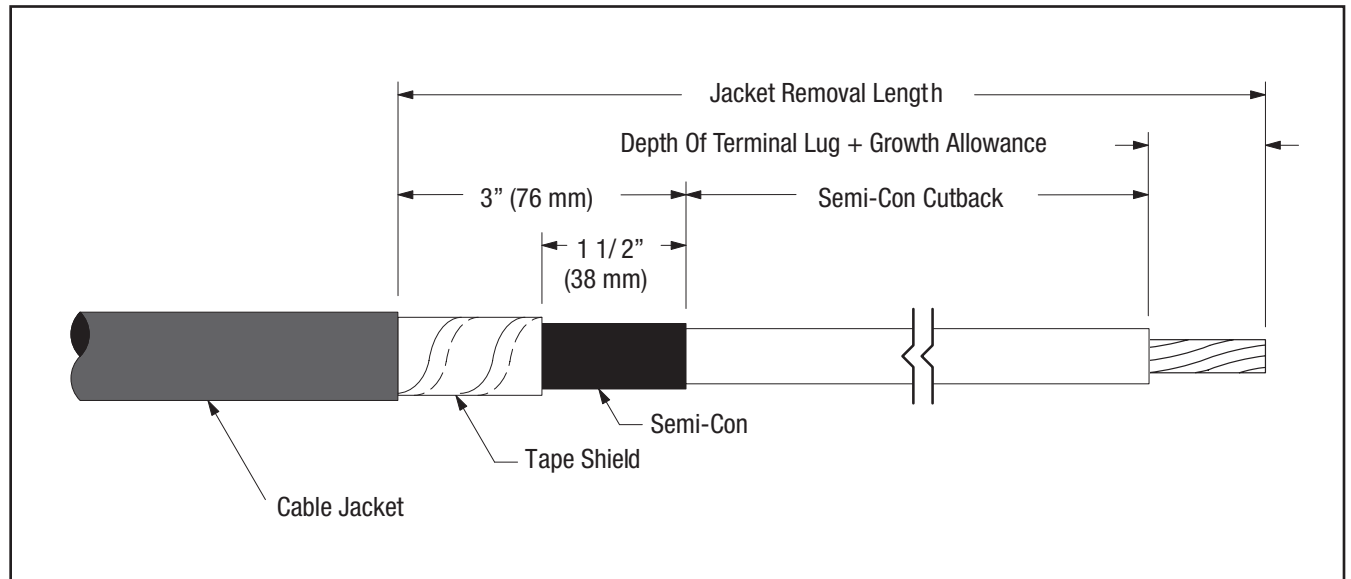

Figure 1
- 2.2 Prepare cable using dimensions shown in Figure 1. Refer to Table 2 for semi-con cutback dimension.